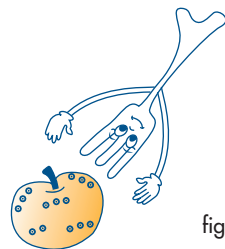

fig. 9
- 4) **Pierce foods with skins, shells or peel (eg. apples, potatoes, tomatoes, frankfurters, fish, etc.) with a fork at several points to allow steam to escape from inside. This prevents these foods from exploding inside the oven (see fig. 9).**